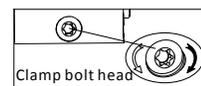

Fig 3-2
1. There is one Torx socket at the end of clamp adjusting bolt on the side of the mount. (See Fig 3-2) Before installation, loosen the screw to release clamp using included Torx wrench, and then;